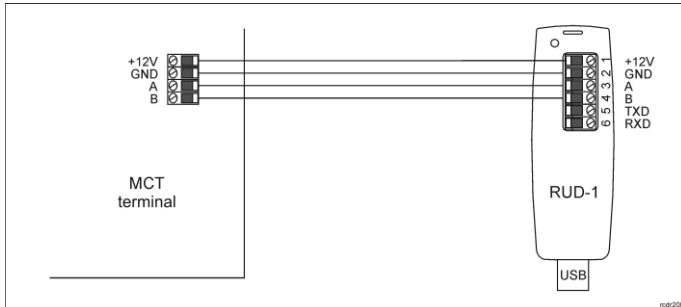

Fig. 1 Connection of MCT reader to RUD-1 interface.
1. Connect the device to RUD-1 interface (fig. 1) and connect the RUD-1 to computer's USB port.
The firmware of device can be changed to newer or older version. Main firmware can be uploaded to the terminal by means of included memory card. The keyboard firmware update requires connection to computer with RUD-1 interface (fig. 1) and starting RogerVDM software. The latest firmware file is available at www.roger.pl.